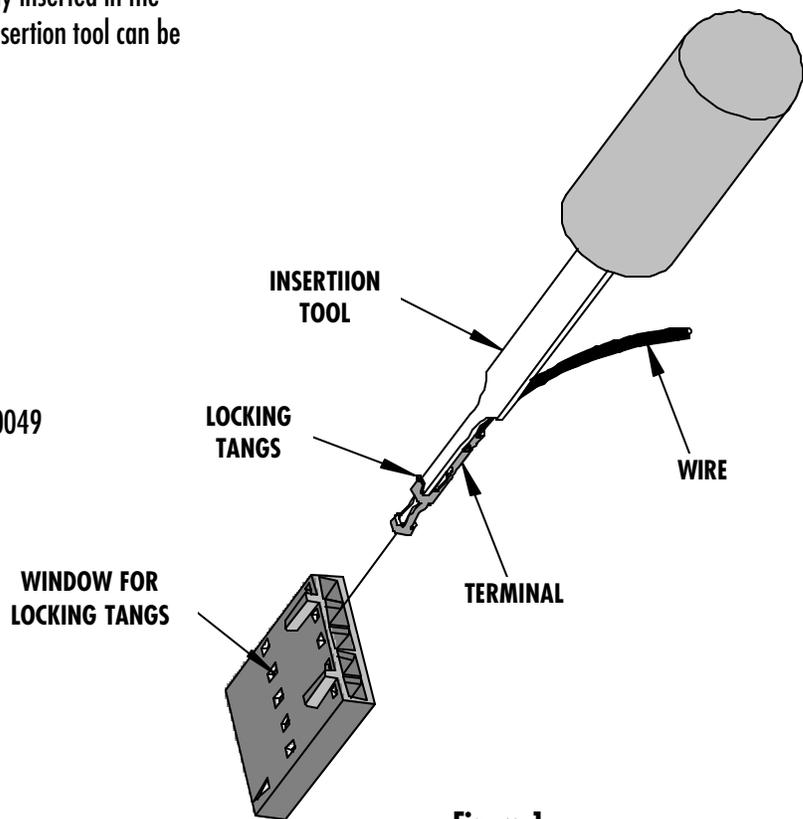

Figure 1
- 1) To properly use this tool, with the flat side facing up, place the step of the tool into the terminal under the locking tangs (See Figure 1). Push the terminal into the housing until the locking tangs are visible through the window. The terminal then should be locked in place.